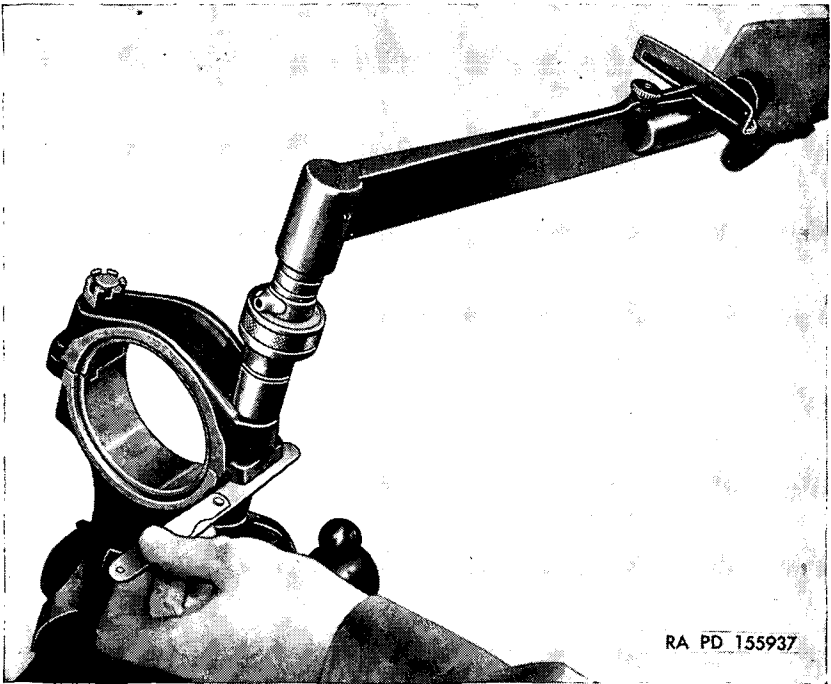

Figure 67. Pinch check of connecting rod bearing.
- (b) Whenever new bearings are installed, they must be pinch checked in the mating connecting rod and bearing cap (fig. 67). Place the rod in a vise with soft jaws. Install the two bearing halves in the rod and cap. Assemble the bolts to secure the rod and cap firmly but do not tighten. Insert a 0.0015-inch feeler gage in the joint on one side between the rod and cap. Tighten the bolt on the opposite side to 550 lb-in torque. Next, tighten the bolt on the feeler gage side with a torque wrench until the cap begins to pinch the feeler gage. The torque required to reach this condition should be between 250 and 450 lb-in. If the torque required is not within this limit, another bearing should be installed and the test repeated. When new bearings are installed, make certain they are marked with identifying location numbers corresponding to rod numbers.